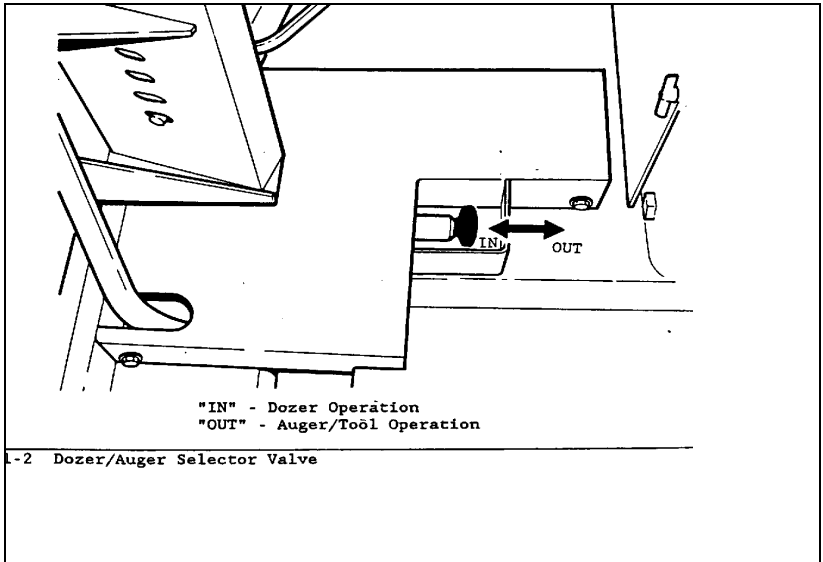
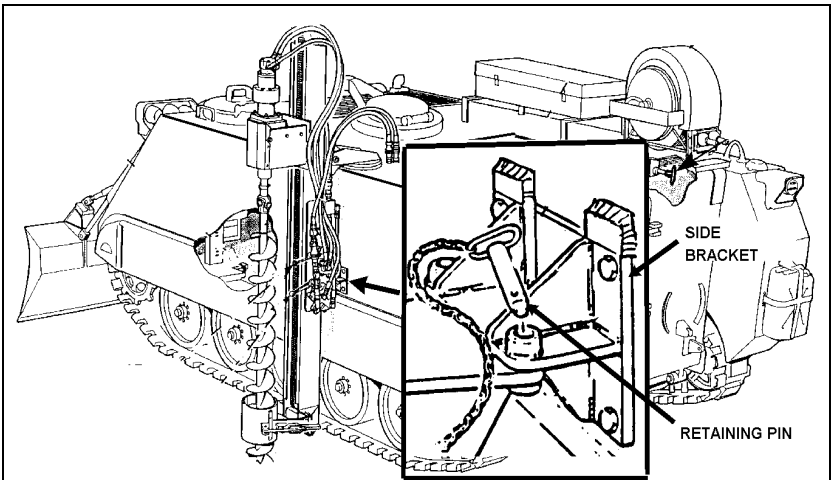

Fig 6-2-7 The Dozer/Auger Selector Valve
Fig 6-2-11 Securing Auger Mast to Side Bracket
- b. ensure the dozer/auger selector valve is in the **DOZER** position (out) (Fig 6-2-7);
- (1) pull the safety clips from the retaining pins (Fig 6-2-7), and
- (2) remove the retaining pins out of the hold down bracket;
- g. insert the two retaining pins to secure the mast (Fig 6-2-11); and